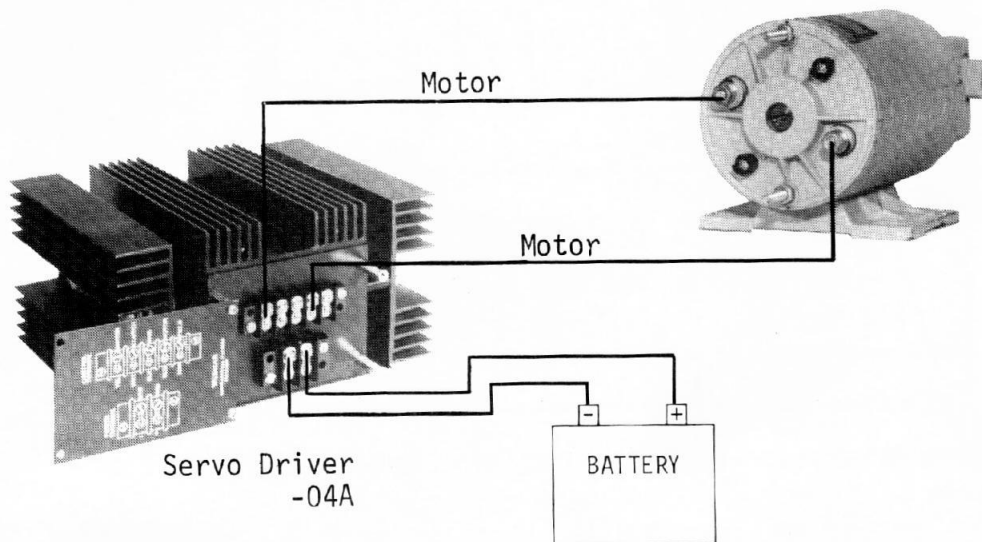

FIGURE 31. WIRING DIAGRAM, HYDRAULIC SERVO MOTOR
9. Crimp two large lugs onto the blue and yellow wires in the end of cable AP900-4425. Connect these lugs to the Servo Motor as shown in Figure 31.
2. Connect the AP900-4425 cable from the Servo Motor to the terminals in the Servo Driver. If a mechanical Servo Motor has been installed, See Figure 27. If a hydraulic Servo Motor was installed, see Figure 31. For instructions on connecting a WESMAR Servo Driver to a competitive Servo Motor, see Figure 36. For information on connecting a WESMAR Servo Driver with a Wagner Power Pack, see Figure 37.